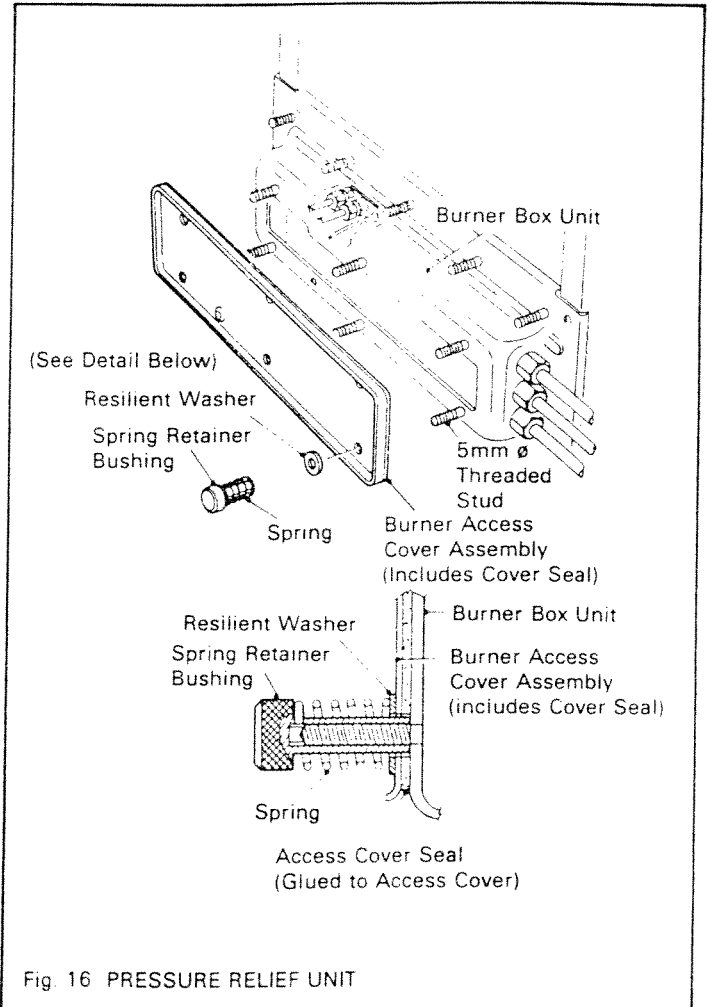

Fig. 16 PRESSURE RELIEF UNIT
This appliance is fitted with a pressure relief unit as shown in fig. 16. The purpose of this unit is to allow a safe relief of
- (a) Remove the spring retainer bushings and washers from the burner access panel — see fig. 16. Take off the access panel. Store the parts in a safe place.